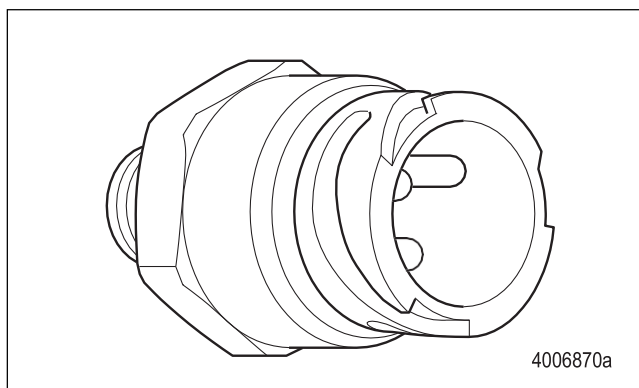

Figure 4.17
5. Disconnect the wiring harness connector from the brake pressure sensor. Figure 4.17.